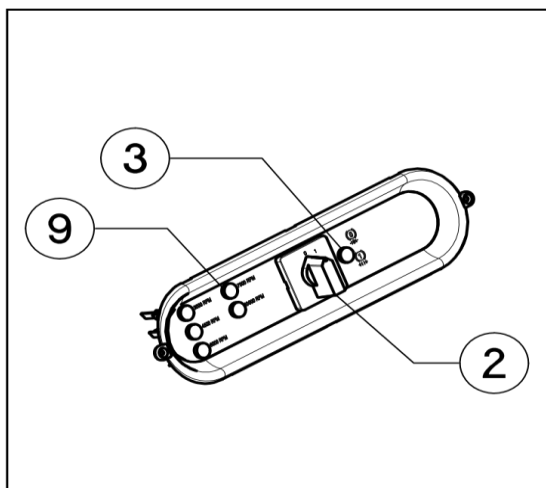
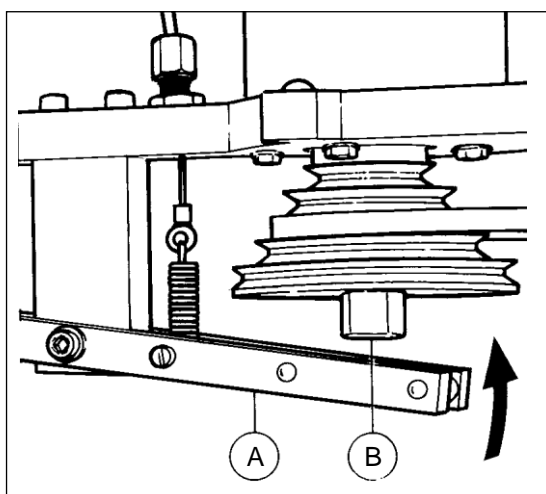

Fig. 15
Abb. 17
- Then the handle must be pushed downward into the stop groove on the frame (B).
- Turn the spindle manually to bring the spindle in locking position (fig 17. A-B).
Proceed as follows: put switch 2 (fig 15) on "1", push the lever (fig 17) on "B". Next the spindle must be turned manually to click into its lock.
It is necessary to wait until the spindle arrived at a complete halt before pushing down the locking lever (fig 17). The spindle is free when the handle is put on "A", locked when on "B".